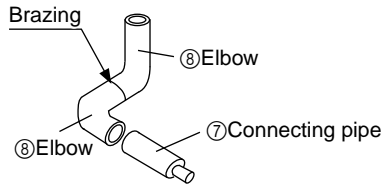

Fig. 1
- (1) Remove the copper cap and rubber packing attached to the piping and flange of the distributor (gas) (optional).
- (2) Assemble outside the unit with the elbow (⑧) in the specified shape and braze (see Fig. 1).